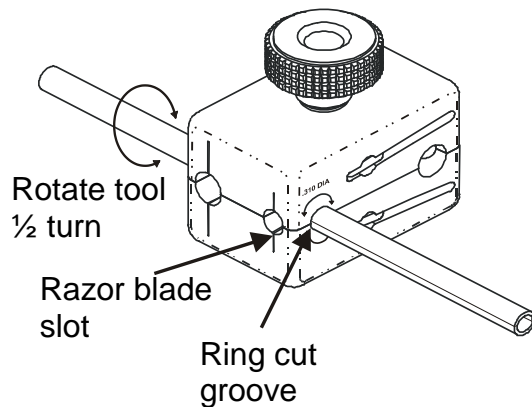

Figure 14 – Ring-cut the core tube at the required length.
2. Use the appropriate 1050-type tool to ring-cut the core tube at the required length (Figure 14). Note: If more than 5-feet of tube is removed, cut and remove the tube in several shorter sections.
3. Use the 1050 tool to ring-cut the core tube at both marks (Figure 14). Remove the core tube to expose the fibers.